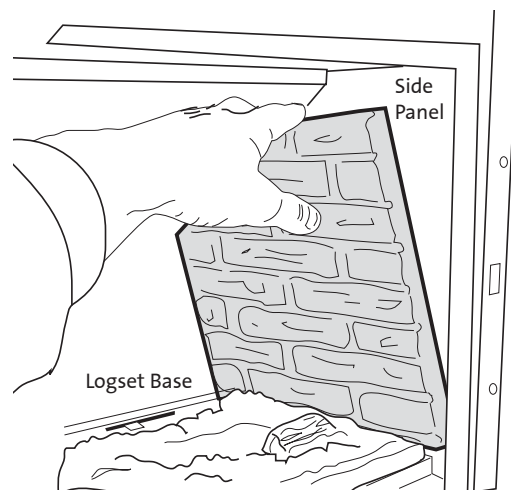

Figure 37. Install the Side Panels.
- 3. Install the Side Panels.** Engage the bottom edge of each side panel between the Logset Base and the firebox wall and push the panel forward against the front lip of the firebox opening. See Fig. 37.